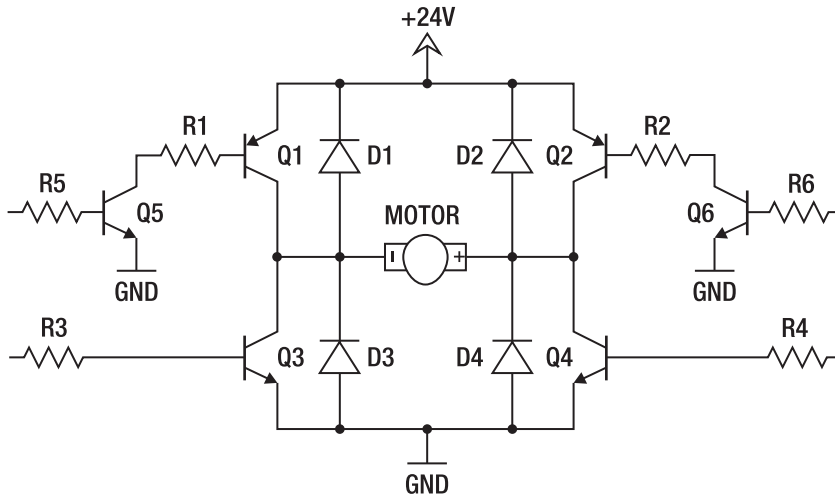

Figure 6-5. The H-bridge schematic with transistors, resistors, diodes, and wires in place
positive voltage supply (see Figure 6-5). These diodes protect the transistors from Back-EMF.
6. *Make connections:* Using the Net tool, connect each component pin to its appropriate connection as shown in Figure 6-5. Add (2) GND supply symbols to the emitter pins of Q5 and Q6. These can be copied from the GND symbol that you already placed in step 1. I added a motor symbol to the center of the H-bridge, to denote where the motor terminals should be connected—this is not required.